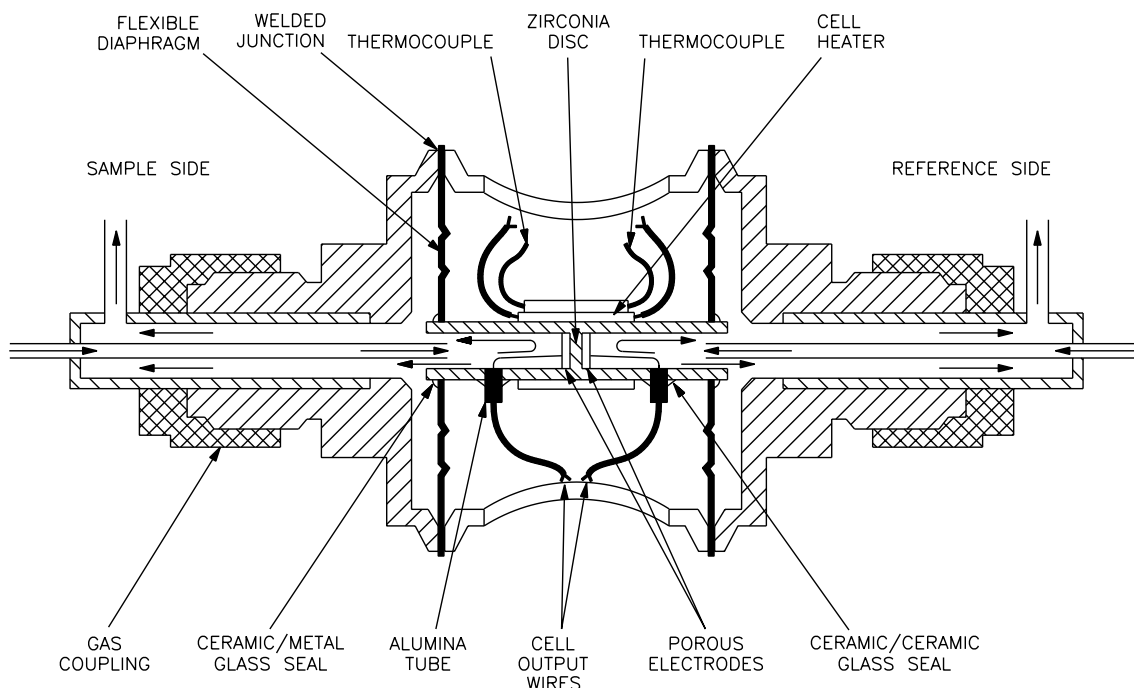

Figure 6.3 Servomex Zirconia Oxygen Sensor
The Servomex (R) zirconia sensor (Figure 6.3) is manufactured using yttria stabilised zirconia. When this material is heated to a temperature above 600 °C it will conduct oxygen ions. The oxygen ion conductivity increases exponentially with temperature. The sensor consists of a disc of yttria stabilised zirconia mounted in a tube of the same material. The faces of the disc are coated with platinum and the assembly is mounted in a small temperature controlled tubular oven.